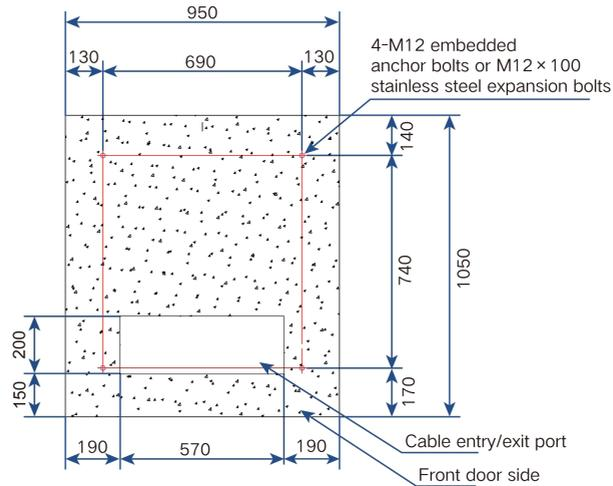

Figure 4-3 Location of Expansion Bolt Holes
Step 2 Mark the holes for drilling on the foundation by referring to the figure of Figure 4-3 Location of Expansion Bolt Holes.